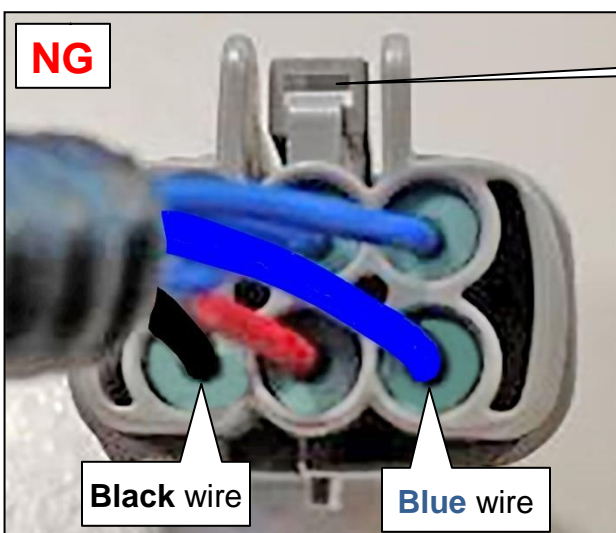
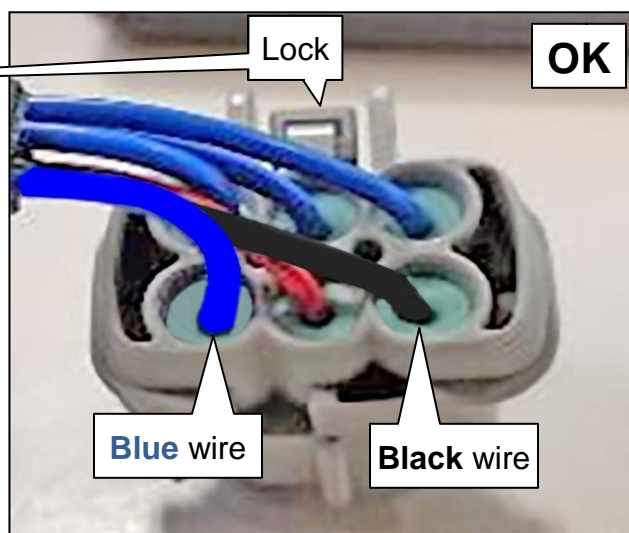

Figure 9
Figure 10
14. Insert the **black** wire where the **blue** wire was positioned (Figure 9, 10).
15. Insert the **blue** wire where the **black** wire was positioned (Figure 9, 10).
NOTE: The color of the **blue** wire in Figure 9 and Figure 10 is enhanced for easier viewing. Normally, it is the same shade of **blue** as the other **blue** wires.